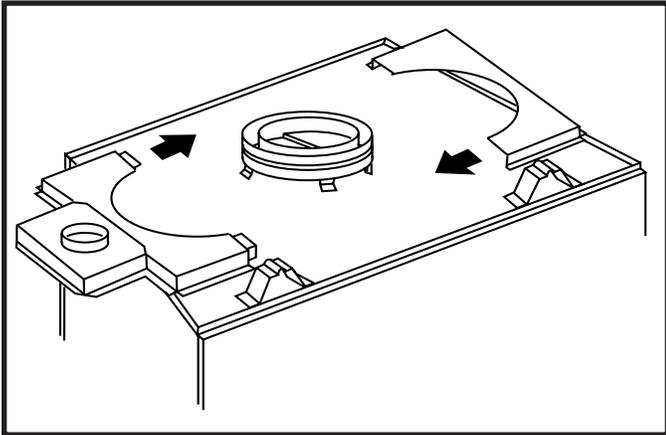

Fig. 3 Attaching the enclosure box.
STEP 1 Attach the enclosure box halves to the fireplace as shown in figure 3. Fit the two halves of the box tight around the fireplace chimney collar, assuring that the collar cooling slots are positioned inside the enclosure box. Fasten together with four (4) #10 screws (provided).